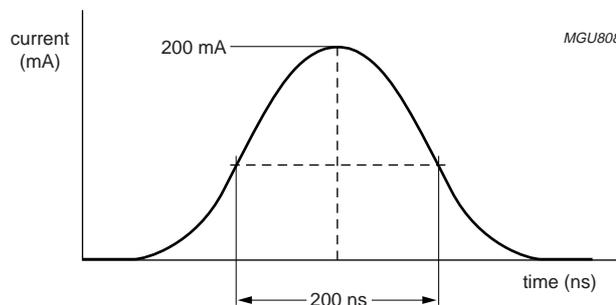

Fig.7 Example of 200 mA and 200 ns current pulse.
- d) Random spikes; 200 mA amplitude; I_{DC} = 5 mA; 200 ns duration; pause between 0.1 and 500 ms (40 nAs) (see Fig.7).